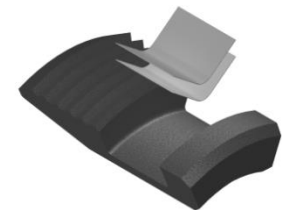

Fig. 5
**NOTE11:** Install two (2 ea) springs per slip (Fig. 5).